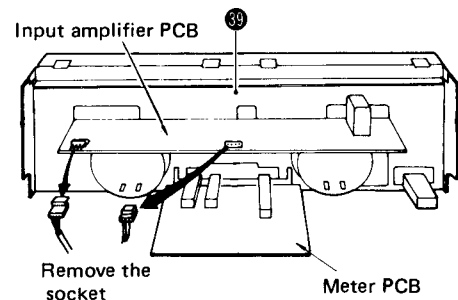

Fig. 7
6. Remove the nut ㉛ (Fig. 7) to detach the meter from the chassis.